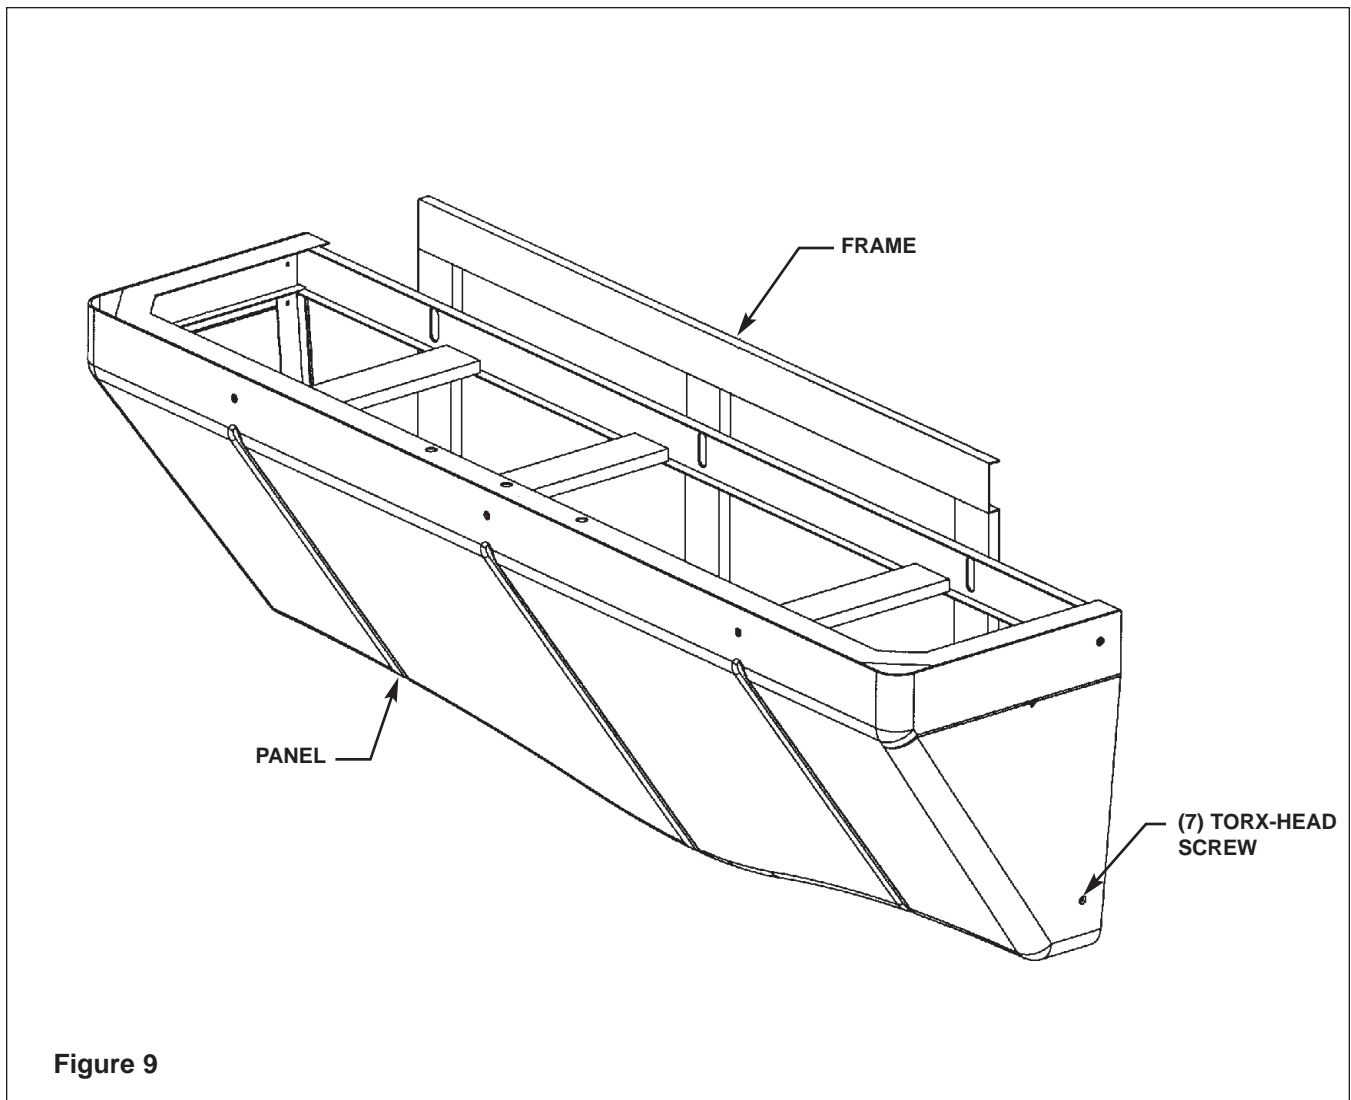

Figure 9
2. Install the panel to the frame. Fasten panel with the seven Torx-head screws provided (see Figure 9 below).